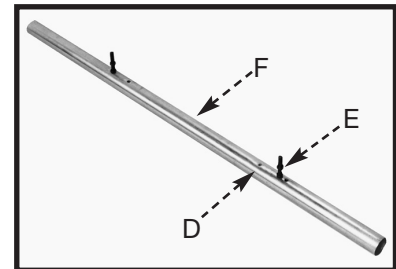

Fig. 13
5. Move the stud (E) Fig. 13 on the lower guide rail (F) to hole (D) in the guide rail. Hole spacing should be 18-1/4".